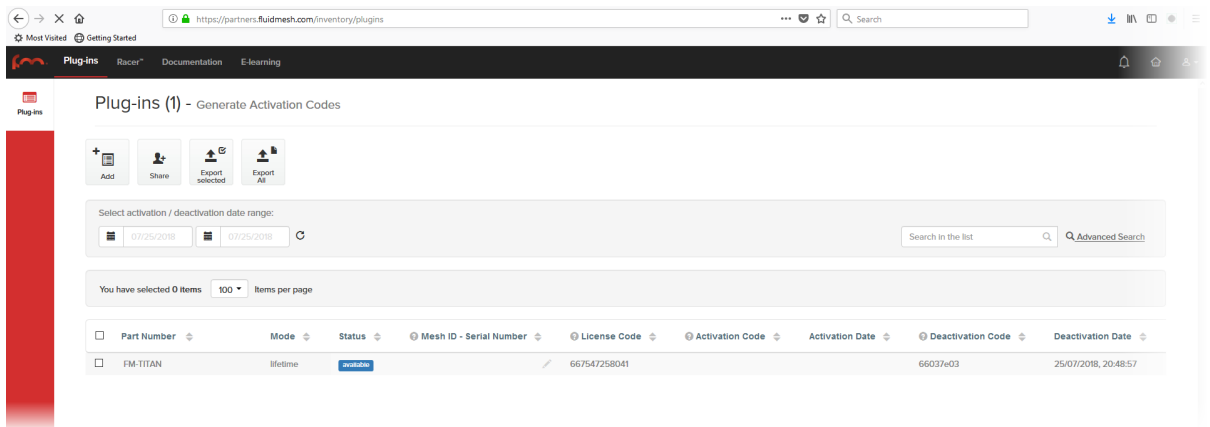

Figure 71. Partner Portal (Plug-ins web page)
- The Plug-ins web page will be shown (Figure 71 \(page 161\)).